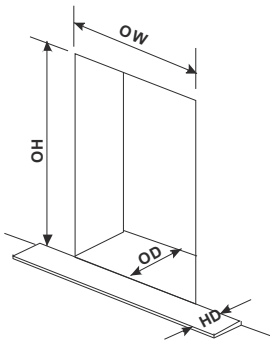

Figure 17-Floor Level Opening
2. Above the hearth level draw a rectangle to the dimensions of the recess as detailed in **Figure 17** or **Figure 18**. Note that a lintel will be required above the recess of the fire to support the inner wall. If in doubt seek expert building advice.